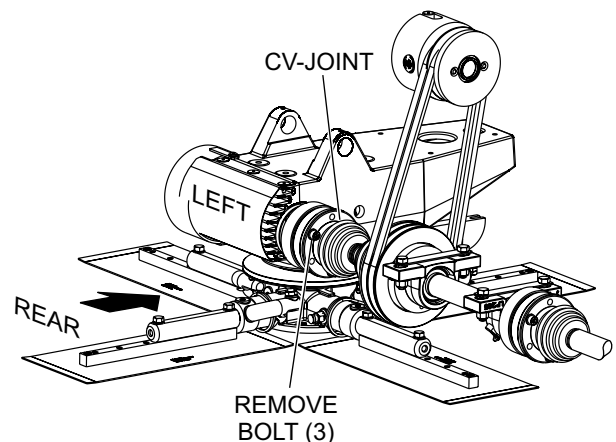

Figure 24. Disconnecting CV-Joint
2. Starting at the left-side gearbox, use a 1/4" allen wrench and remove the 3 bolts and lock washers that secure the CV-joint (Figure 24) to the left-side gearbox. Retain mounting hardware for later use.